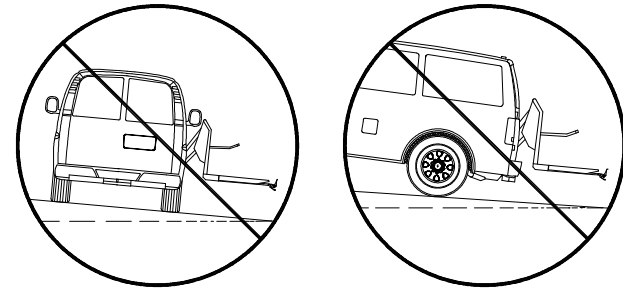

FIGURE 2-1: DO NOT DEPLOY LIFT WHEN VEHICLE IS ON SLOPED GROUND
- Refer to **Figure 2-1**. Deploying the lift when vehicle is on sloped ground is hazardous. Operate lift with vehicle parked on level ground.